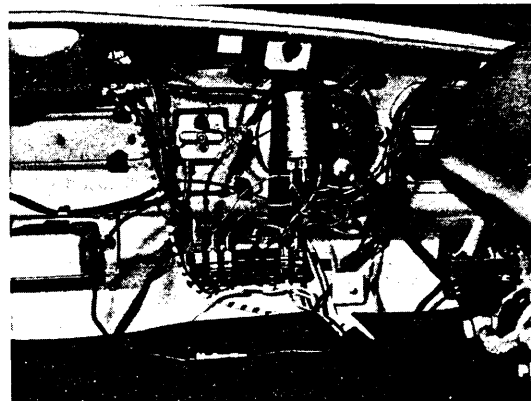

Fig. 6
- 10 - Connect heater positive cable to terminal 30 in the fuse box with the adaptor provided. Fig. 6 and wiring diagram.